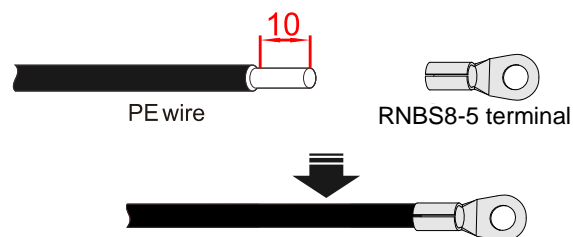

Figure3-38 Stripping diagram of PE (unit: mm (in))
Step 4 Strip the insulation layer of wire for about 10mm, as shown in Figure3-38.
Step 3 Strip the insulation layer of wire for about 10mm, as shown in Figure3-38.